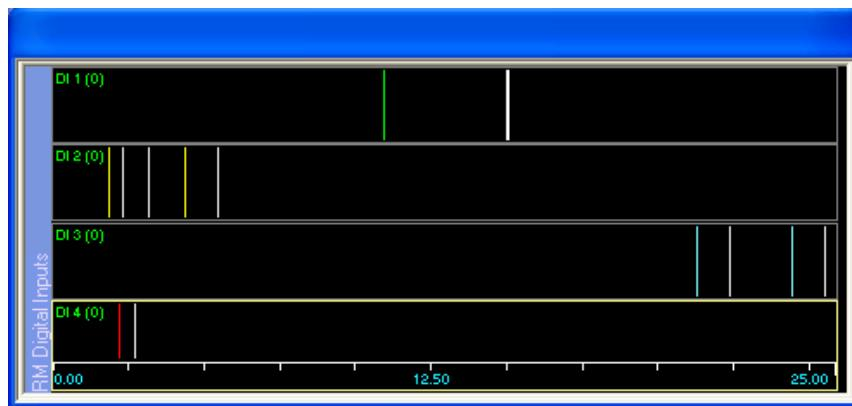

Figure 78: Single-Bit Digital Input Display
- The window appears (*Figure 78*), with each input bit in the window appearing in its own graph.